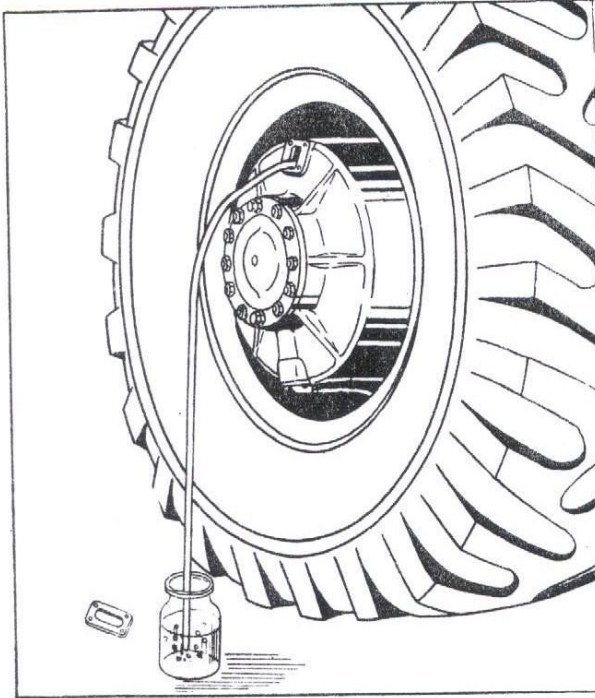

FIG. 52. BLEEDING AIR FROM BRAKE CONTROL HYDRAULIC SYSTEM
5. Immerse the open end of the hose into a glass vessel (having capacity of at least 1/2 ℓ) containing brake fluid. The vessel must be half-full with the brake fluid (Fig. 52).